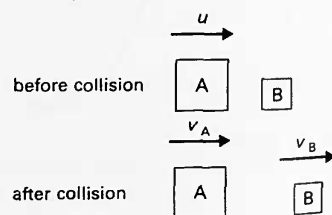

Figure A122
- 55(L)** When an object A of mass  $M$  and velocity  $u$  collides head-on elastically with a stationary object B of mass  $m$ , B moves off with a velocity  $v_B$  and A has a velocity  $v_A$  (figure A122), where